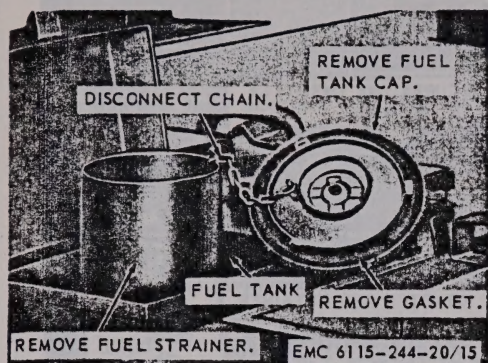

Figure 15. Fuel tank cap and strainer, removal and installation.
a. *Removal.* Refer to figure 15 and remove
- (1) Clean the fuel tank cap and strainer with an approved cleaning solvent and dry thoroughly.
- (2) Inspect the cap, strainer, and gasket for breaks, cracks, tears, and other damage.
- (3) Replace all parts that are excessively damaged, worn, or defective.
c. Installation. Refer to figure 15 and install the fuel tank cap and strainer on the fuel tank.